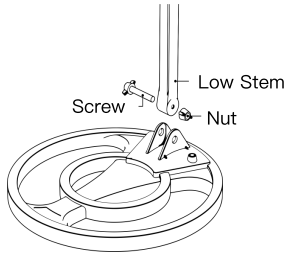

Fig.2
1. Insert the lower stem and align the hole on the search coil and the lower stem. Push the screw through the hole and tighten the knob. (See Fig.2)